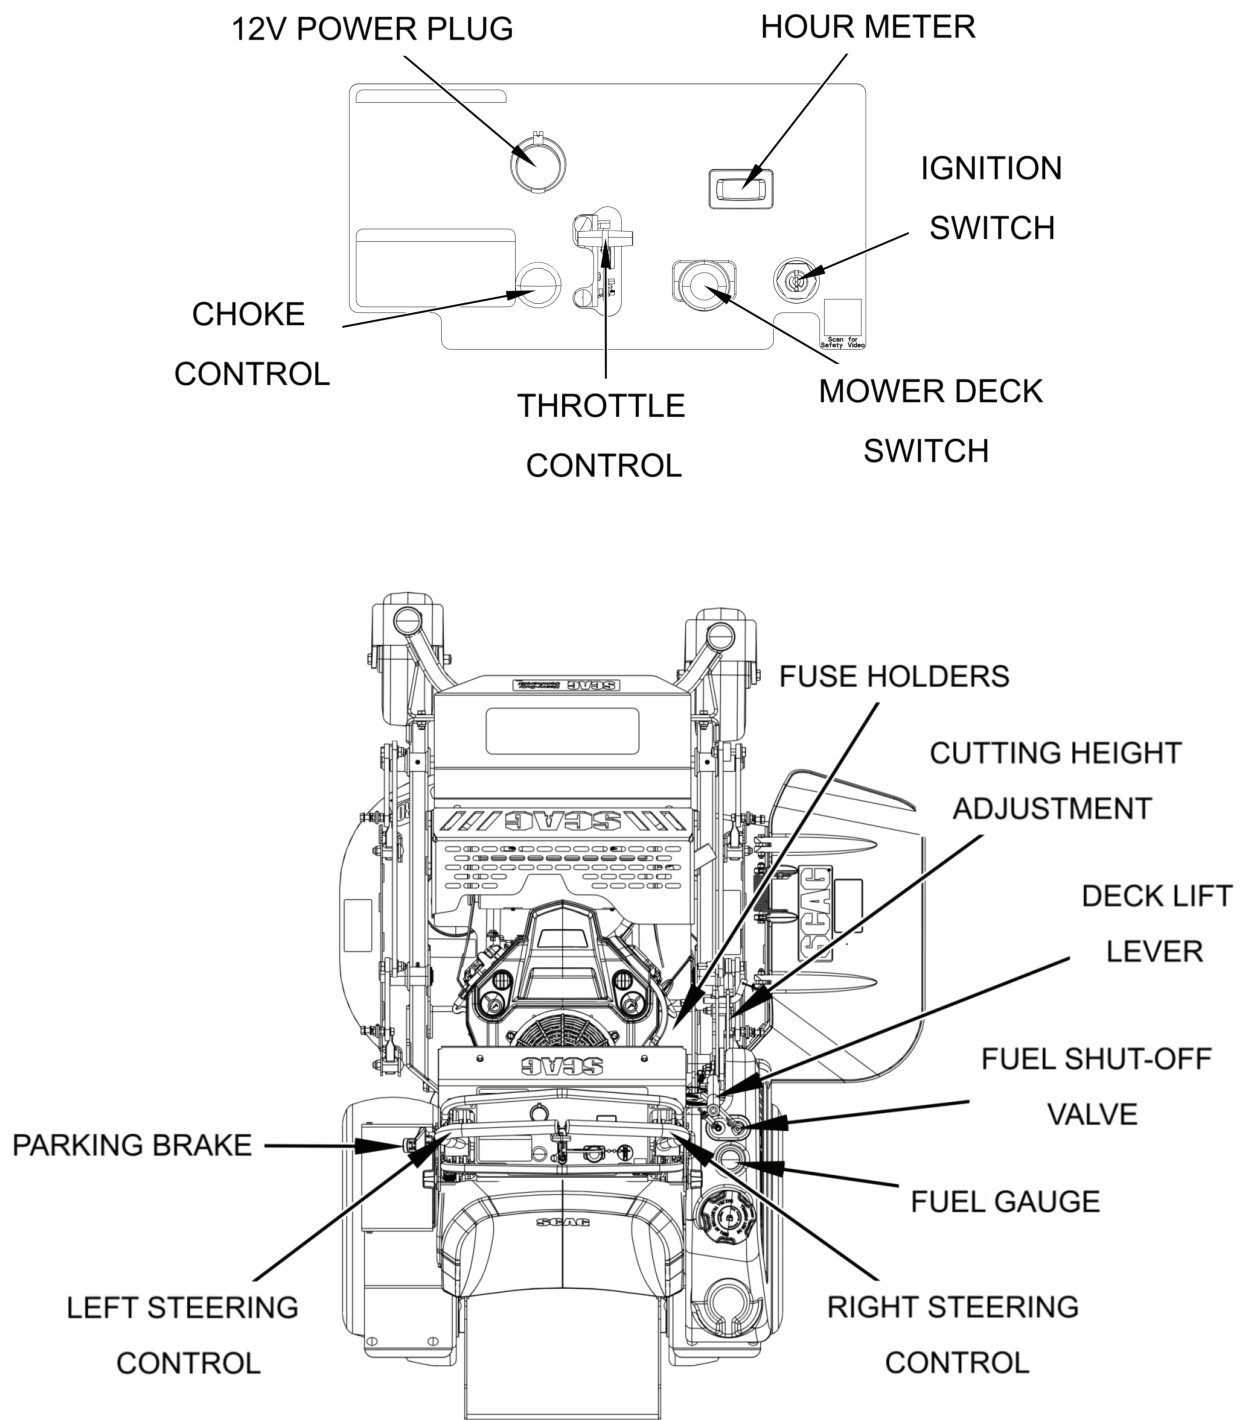
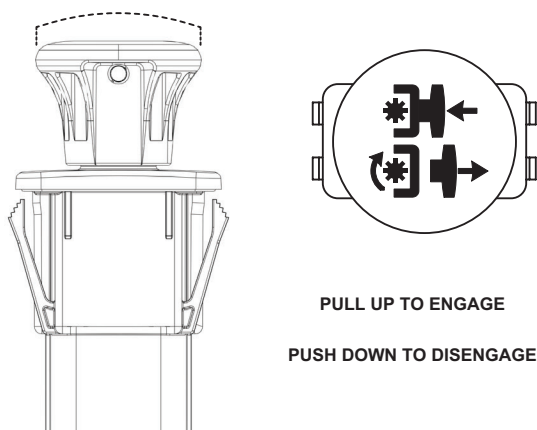

Figure 4-2. Controls and Instruments
Figure 4-5. PTO Switch Function
1. **Ignition Switch (Figure 4-2):** The ignition switch is used to start the engine and has three positions: OFF, ON, and START.
2. **Engine Choke Control (Figure 4-2):** Controls the air pressure in the intake manifold. Only use when starting a cold engine.
3. **Engine Throttle Control (Figure 4-2):** Controls the engine speed. Pushing the lever forward increases the engine speed. Pulling the lever back decreases the engine speed. The furthest back position of the lever is the IDLE position. The furthest forward position of the lever is the cutting position.
4. **Mower Deck Switch (Figure 4-2):** Engages and disengages the mower deck drive system. Pulling the switch up will engage the deck drive. Pushing the switch down will disengage the deck drive.
5. **Inductive Hour Meter (Figure 4-2):** Indicates the number of hours the machine has been operated for.
6. **12V Power Plug (Figure 4-2):** An additional power supply for all your worksite needs.
7. **Fuse Holders (Figure 4-2):** Two 20-amp fuses protect the electrical system of the machine. Pull a fuse out of the socket to replace.
8. **Left Steering Control (Figure 4-2):** Controls power to the left wheel. See Section 4.5 for further information regarding ground travel and steering.
9. **Right Steering Control (Figure 4-2):** Controls power to the right wheel. See Section 4.5 for further information regarding ground travel and steering.
10. **Parking Brake Lever (Figure 4-2):** Engages and disengages the parking brakes while locking the steering levers in the neutral position. Move the lever back to engage the parking brake. Move the lever forward to disengage the parking brakes.
11. **Cutter Deck Lift Lever (Figure 4-2):** Raises and lowers the cutter deck.
12. **Cutting Height Adjustment (Figure 4-2):** Sets the cutter deck at the desired cutting height.
13. **Fuel Gauge (Figure 4-2):** Indicates the amount of fuel in the fuel tank.
14. **Fuel Shut-Off Valve (Figure 4-2):** Controls the fuel supply to the engine. Located on top of the fuel tank. Rotate counterclockwise to supply fuel to the engine. Rotate clockwise to shut off the fuel supply to the engine.
2. Engage the cutter deck drive by pulling the yellow PTO switch, located on the instrument panel, up. See Figure 4-2 and Figure 4-5.